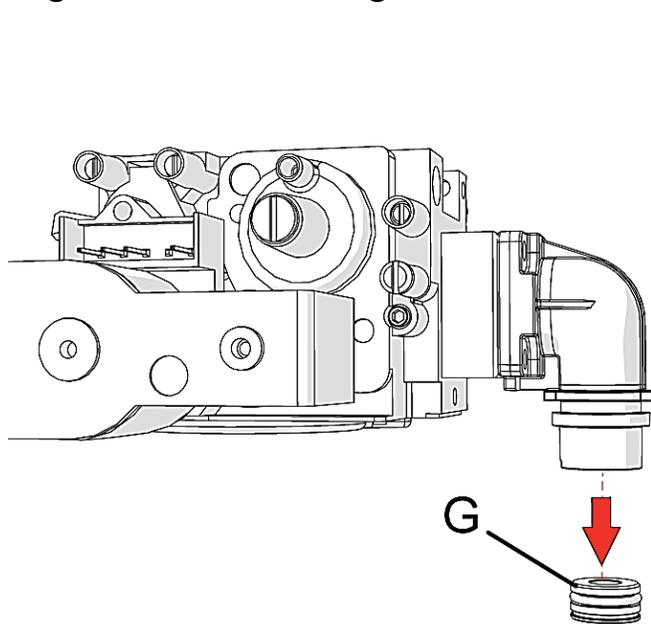

Figure 7-4: Gas Valve Orifice
13. Replace orifice “G” per Figure 7-4, for the correct one for type of gas used. Verify that the stamping on the orifice matches Table 7-2.